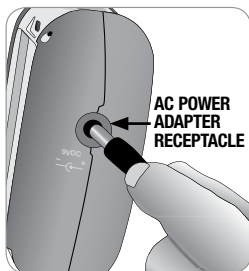

Fig. 8
1. Connect the AC power adapter to the KeepSafe Essential (Fig. 8).